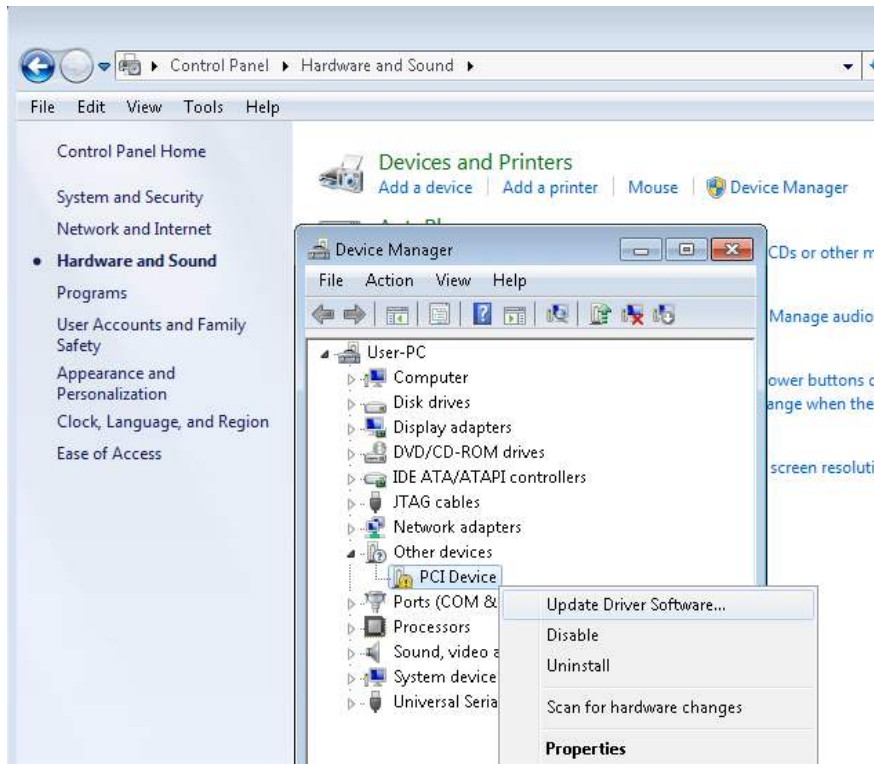

Figure 7-3 Screenshot of launching Update Driver Software dialog
5. Click the Control Panel menu from the Windows Start menu. Click the Hardware and the Sound item before clicking the Device Manager to launch the Device Manager dialog. There will be a PCI Device item in the dialog, as shown in **Figure 7-3**. Move the mouse cursor to the PCI Device item and right click it to select the Update Driver Software... item.